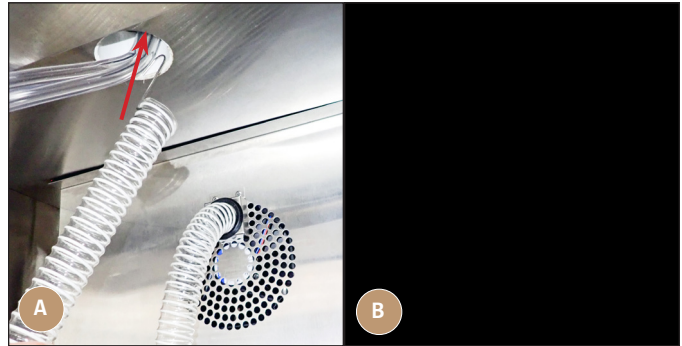

FIG. 6. Route the chill hose into the draft standard from below (A) and hook it on the top of the insulation sleeve (B).
- Hook the chill hose's clip to the top of the draft standard insulation sleeve. See fig. 6.